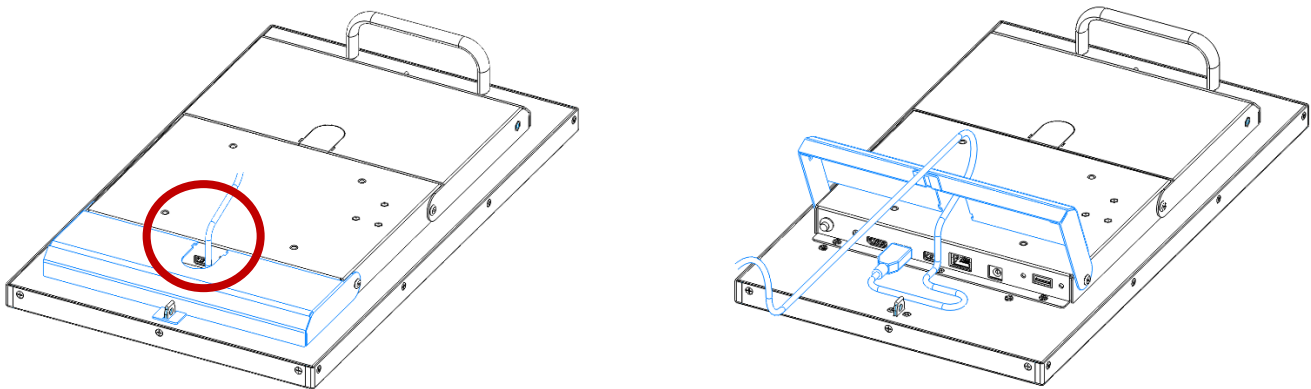

FIG. 4E: SYSTEM ISOMETRIC BACK VIEW, CABLE ROUTING THROUGH BOTTOM COVER
- Close the Bottom Cover. As illustrated in **Fig. 4E**, leave several inches of extra cable slack in the door. This will prevent any strain on the cable if the display was tilted on the mount.